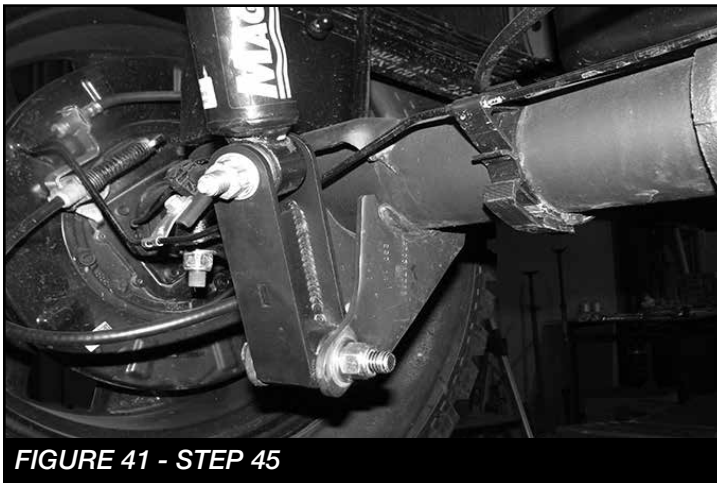

FIGURE 41 - STEP 45
45. Install FT20673BK rear shock bracket like shown in **FIGURE 41.** Torque to 100 ft-lbs